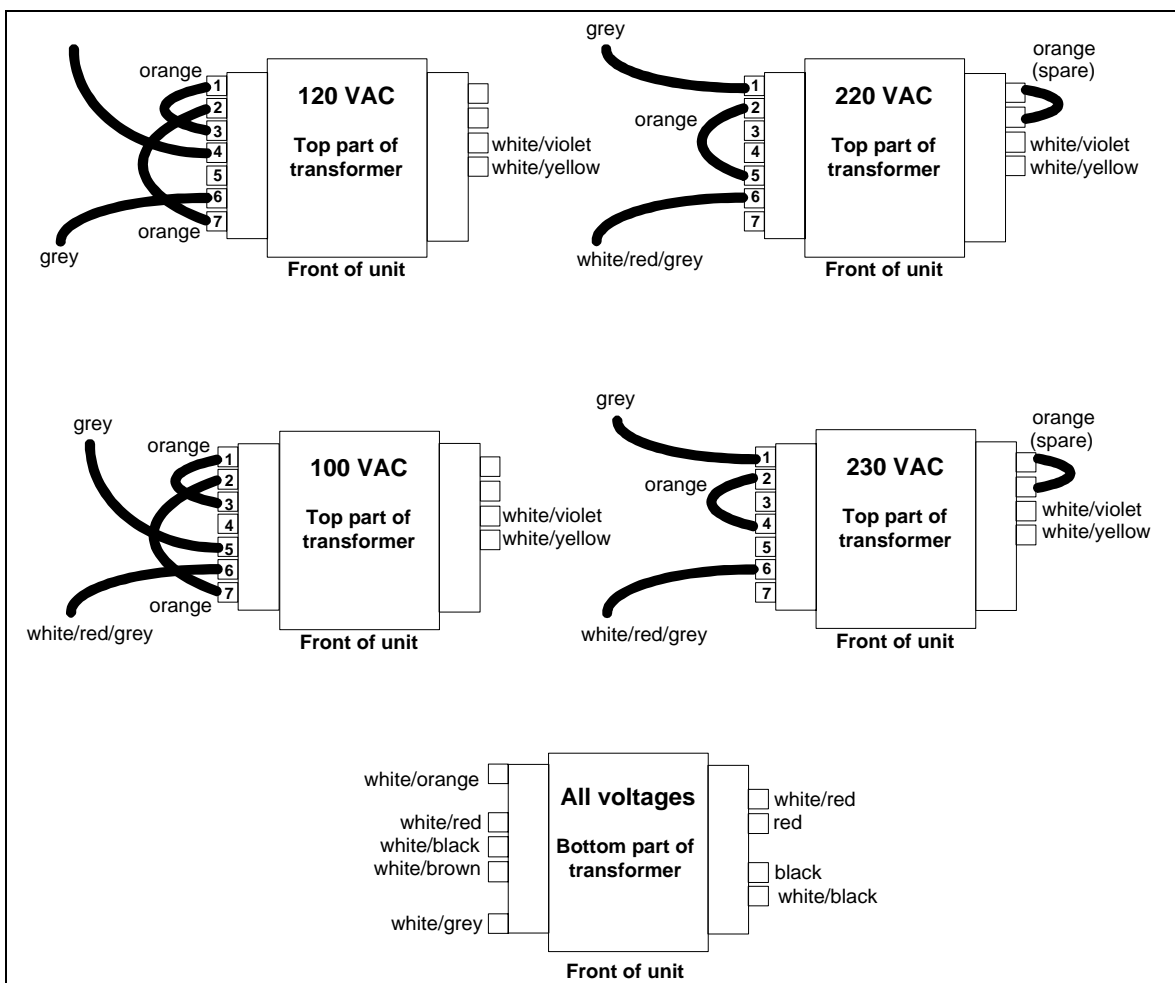

Figure 3-6. Transformer Wiring
**NOTE:** The transformer primary connections are line voltage dependent. Figure 3-6 illustrates the primary wiring configuration of the power transformer for various ac line voltages.